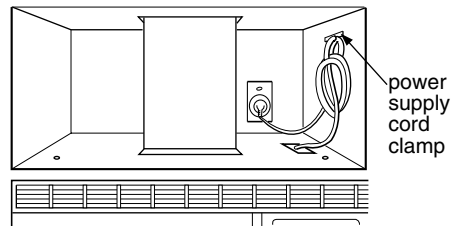

Figure 31
7. Roof venting installation: Install ductwork through the vent opening in the upper cabinet. Complete the venting system through the roof according to the method needed. See "Venting requirements," STEP 3 on the page 10. Use caulking to seal exterior roof opening around exhaust cap. See Figure 31.
8. Use power supply cord clamp to bundle the power supply cord. Install power supply cord clamp, using screw as shown in Figure 31, to inside of the cabinet.